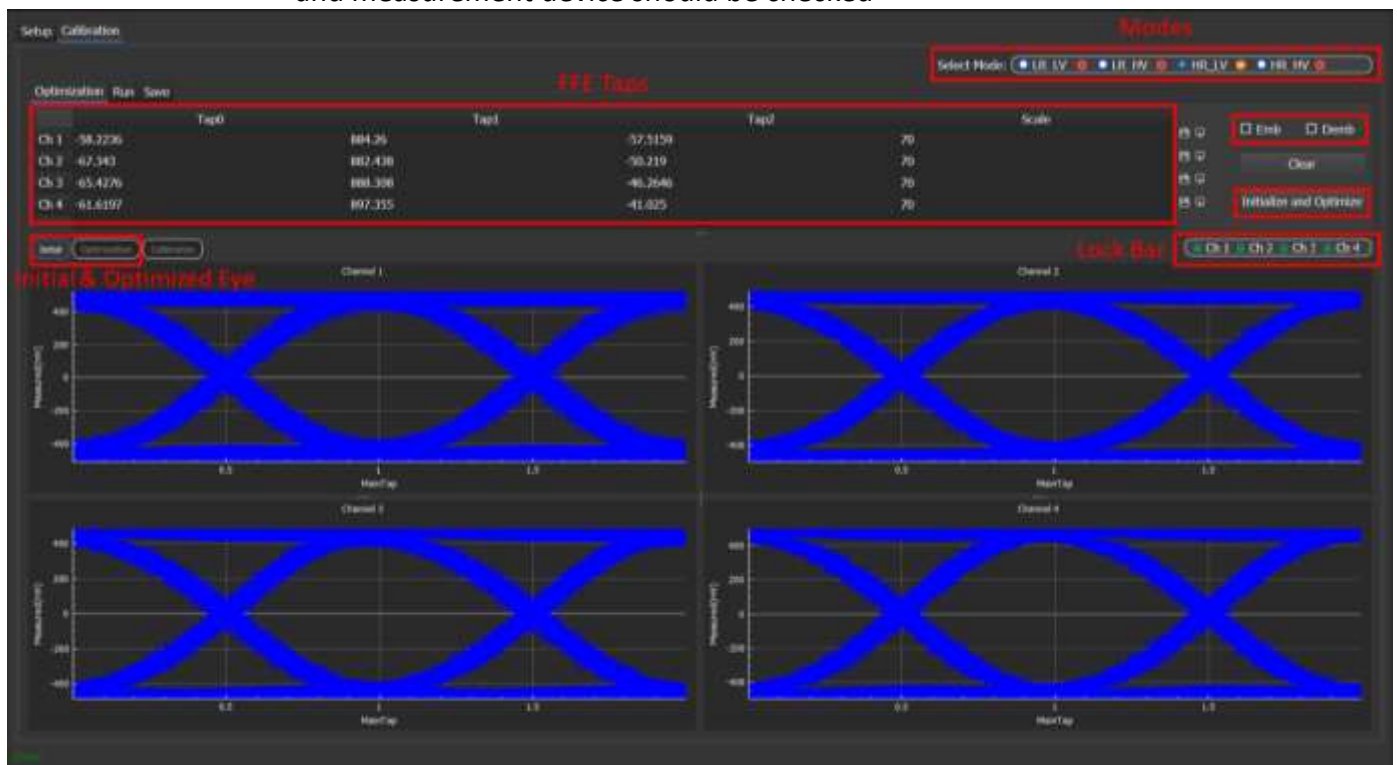

Figure 8: Calibration - Optimization
Referencing Figure 8, while in the optimization mode, the following steps should be done in respective order:
5. The GUI in Figure 8 also shows the FFE taps generated, initial eye, and optimized eye.